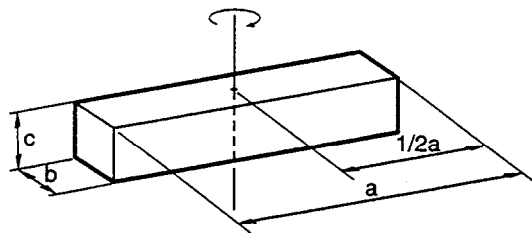

Figure 6-3
The equation for the moment of inertia (J) for a rectangular parallelepiped that has a rotation center such as shown in Figure 6-3 is given as follows: